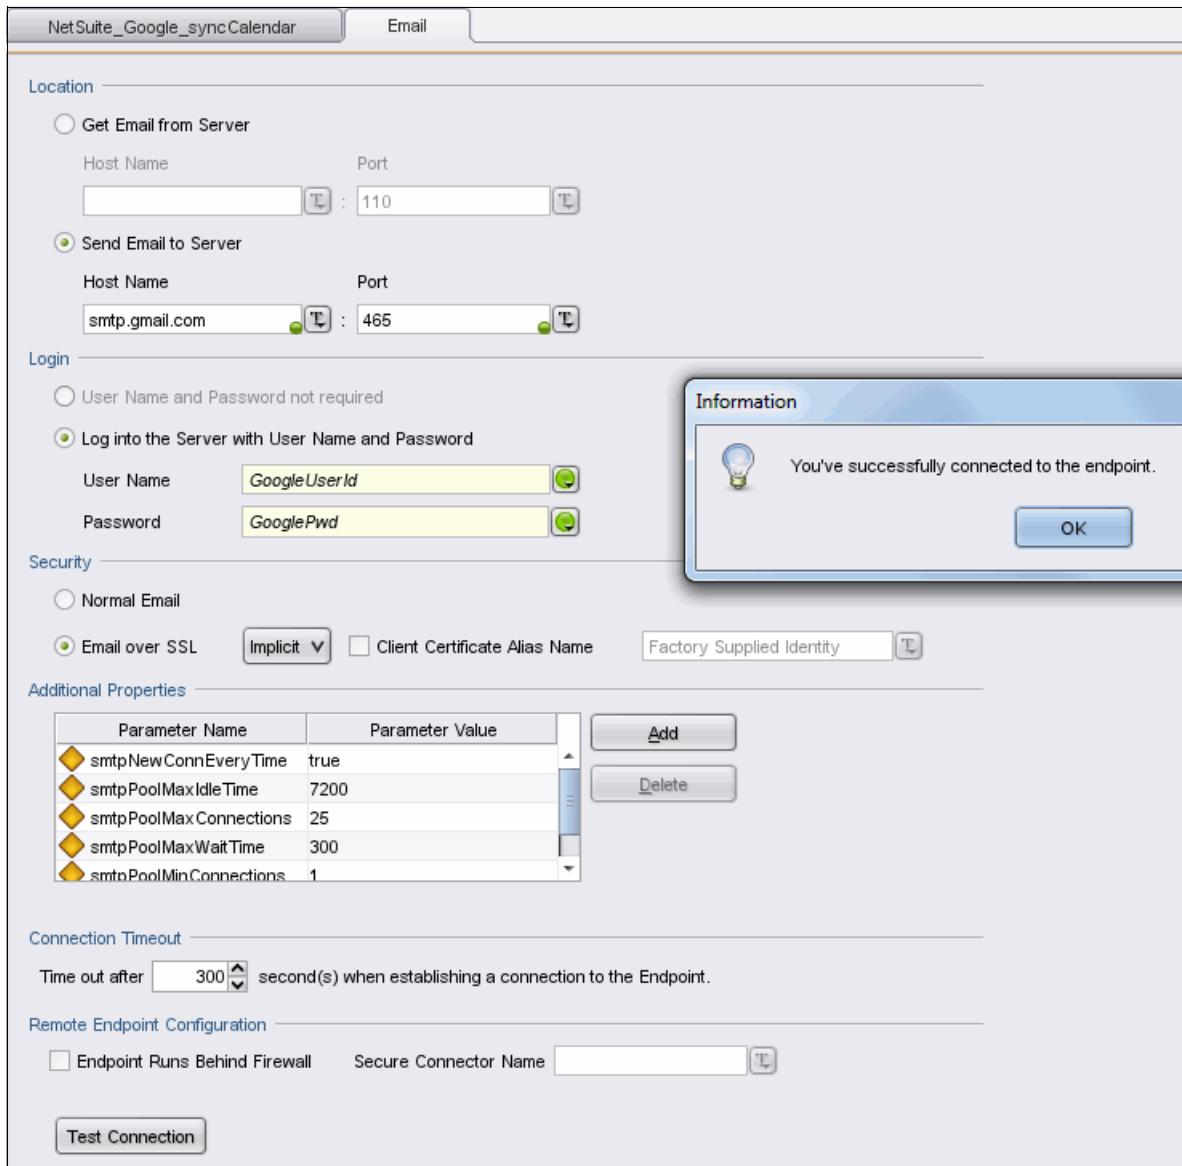

Figure 11-37 Configuration for Email endpoint
3. Go to the Project tab. Right-click **Endpoints**, and then select **Create Endpoint → Email**. A new tab is created with the email configurations, as shown in Figure 11-37 on page 457.